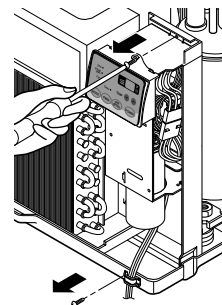

FIG. 26
2. Remove the screw which fasten the control box. (See Fig. 26)
3. Pull the control box from the barrier. (See Fig. 26)
7. Re-install the components by referring to the removal procedure. (See Fig. 26)